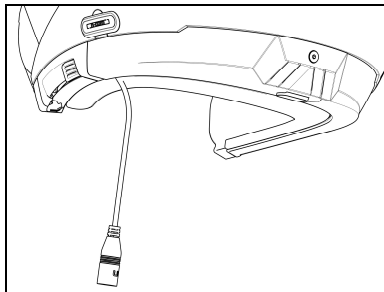

Fig. 14
- Reassemble the gasket and secure it with the specific screw, making sure that the cable connecting to the motorbike comes out of the helmet as shown in Fig. 14.